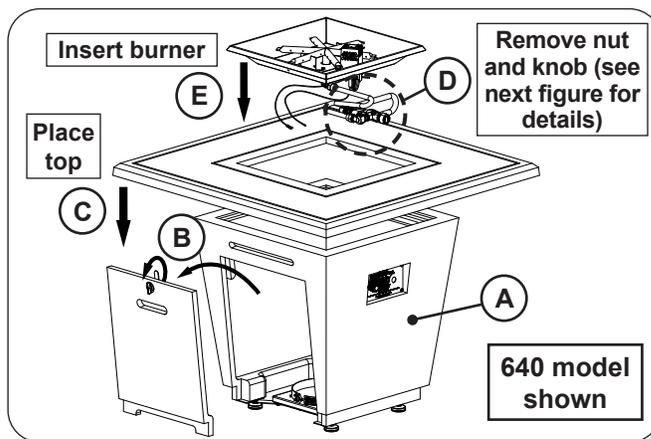
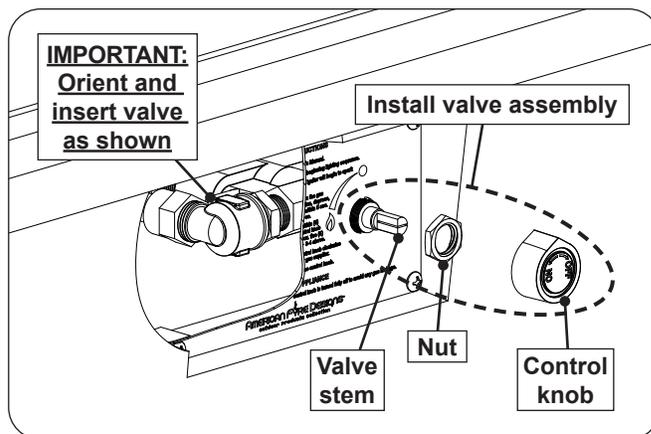

Fig. 34-1 Place base, remove door, place top and burner
Fig. 34-2 Install valve assembly
1. **Carefully** remove the valve and burner assembly from the base, then **carefully** place the base in an appropriate location (see Fig. 34-1, A, and refer back to the LOCATION section if needed).
3. **Carefully** place the top on the unit (see Fig. 34-1, C).
4. Locate the valve and burner assembly. Remove the control knob. Use a 20mm socket to remove the nut attached to the valve stem. See Fig. 34-1, D, and reference Fig. 34-2 for details.
Then drop the valve and burner assembly into the opening in the center of the firetable top, with the two burner pan holes facing toward the door (see Fig. 34-1, E).
5. Insert the valve assembly through the plate (in the base). Replace the nut onto the valve stem, and tighten. Reinstall the control knob. See Fig. 34-2.
Important: Handle with care to prevent damage to the thermocouple, electrical, and gas connections (as applicable). Ensure the valve is oriented and inserted in the manner shown. See Fig. 34-2.